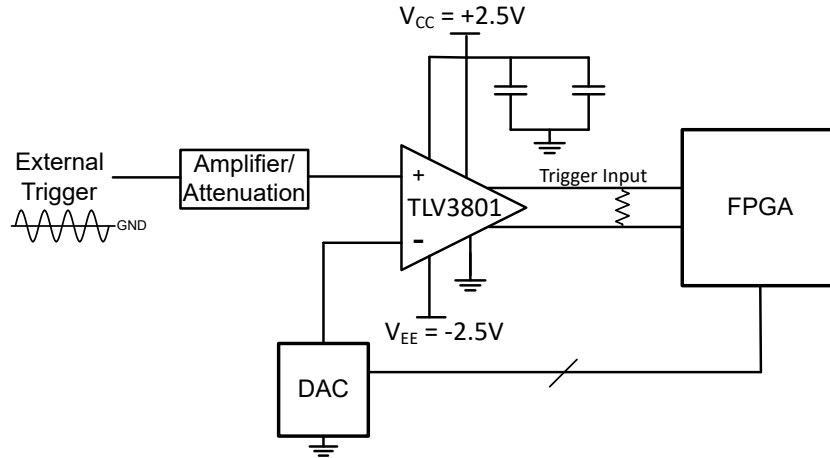

图 8-6. External Trigger Function
图 8-6 is a typical configuration for creating an external trigger on oscilloscopes. The user adjusts the trigger level, and a DAC converts this trigger level to a voltage the TLV380x/TLV3811(C) can use as a reference. The input voltage from an oscilloscope channel is then compared to the trigger reference voltage, and the TLV380x/TLV3811(C) sends an LVDS signal to a downstream FPGA to begin a capture. It is common to see bipolar inputs in test and measurement systems such as oscilloscopes; therefore, the TLV380x can be configured in split supply so that the inputs are in the allowable input voltage range.